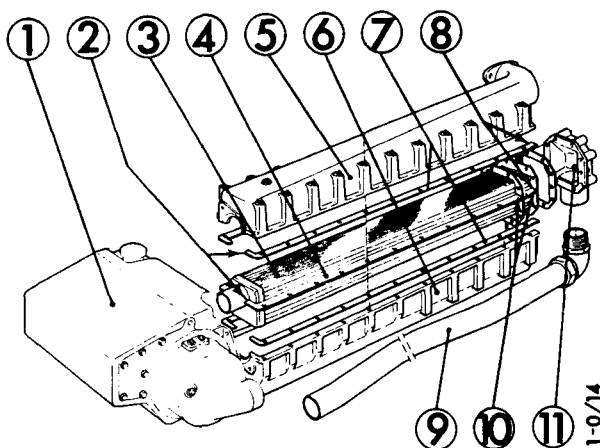

Fig. 2
When fitting together the upper and lower part of the intercooler and intake manifold the following must be observed. The gaskets (7) in fig. 2 lying between the intake manifolds' upper (5) and lower (6) parts and, which seal against the flange (4) on the intercooler element (3) must be pushed inwards and backwards very carefully so that they seal properly in their short ends at (2) and (8). The same applies to the gaskets between the rear flange of the intercooler and the intake manifold at (10). It may be to some advantage to use a sealing agent at these points.